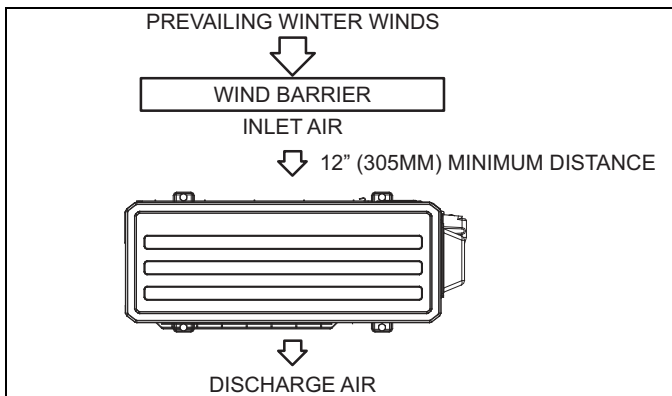

FIGURE 2: Prevailing Wind Barrier
SECTION V: SELECTING THE INSTALLATION LOCATION**INDOOR UNIT (SEE FIGURE 2 FOR INSTALLATION DIMENSIONS)**
7. If unit coil cannot be installed away from prevailing winter winds, a wind barrier should be constructed. Size barrier at least the same height and width as outdoor unit. Install barrier 12 inches minimum from the sides of the unit in the direction of prevailing winds as illustrated in Figure 2.